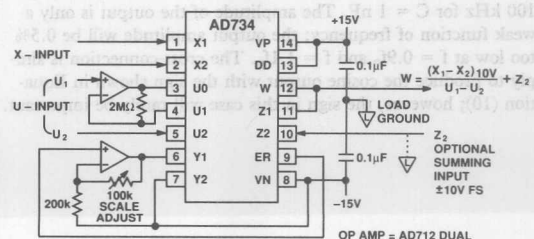

Figure 12. Two-Quadrant Divider with Fixed 10 V Scaling
The output ER may also be buffered, re-scaled and used as a general-purpose reference voltage. It is generated with respect to the negative supply line Pin 8 (VN), but this is acceptable when driving one of the signal interfaces. An example is shown in Figure 12, where a fixed numerator of 10 V is generated for a divider application. There, Y_2 is tied to VN but Y_1 is 10 V above this; therefore the common-mode voltage at this interface is still 5 V above VN, which satisfies the internal biasing requirements (see Specifications Table).
Where a numerator of 10 V is needed, to implement a two-quadrant divider with fixed scaling, the connections shown in Figure 12 may be used. The reference voltage output appearing between Pin 9 (ER) and Pin 8 (VN) is amplified and buffered by the second op amp, to impose 10 V across the Y1/Y2 input. Note that Y2 is connected to the negative supply in this application. This is permissible because the common-mode voltage is still high enough to meet the internal requirements. The transfer function is